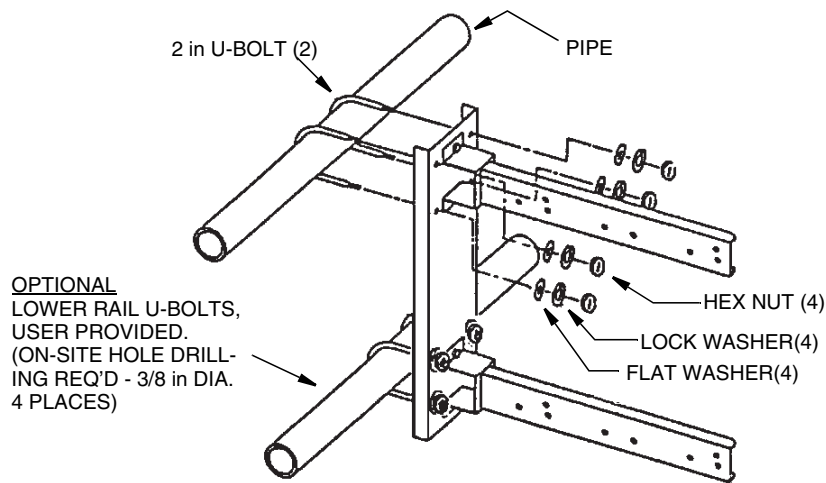

Figure 5. Assembly of Rail Mounting
2. Using two 2-in U-bolts and hardware provided (flat washer, lockwasher, and hex nuts), attach mounting assembly to upper horizontal rail loosely. The rail mounting plate with extension arms should face the tank and be located on the inside of the rail (tank side). See Figure 5.